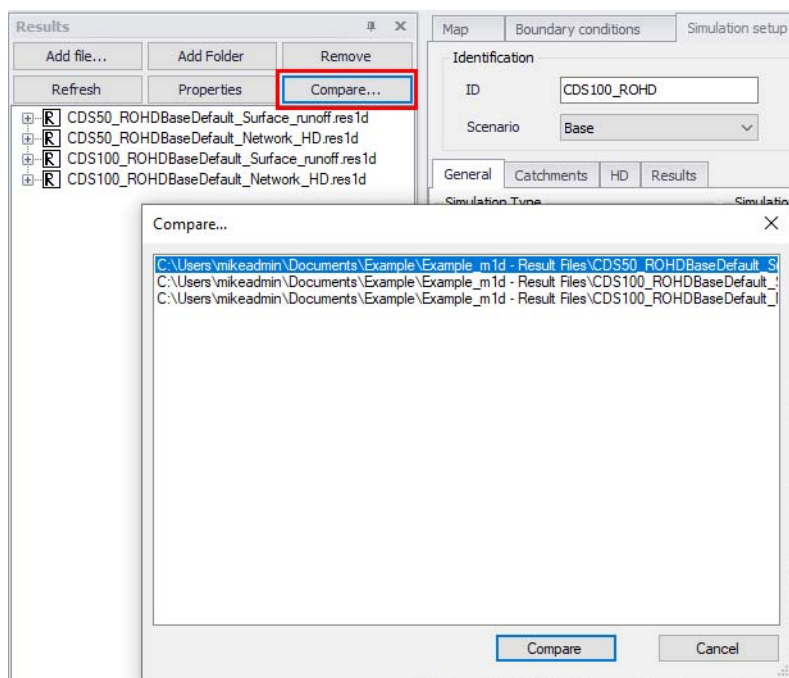

Figure 20.94 Loading result files for comparison of results
- Select one of the result file layers (i.e. File A) on the Results manager, and click on the ‘Compare...’ button at the top of the panel (Figure 20.94). This will launch a dialog listing other loaded result file layers available for comparison with the currently-selected layer.